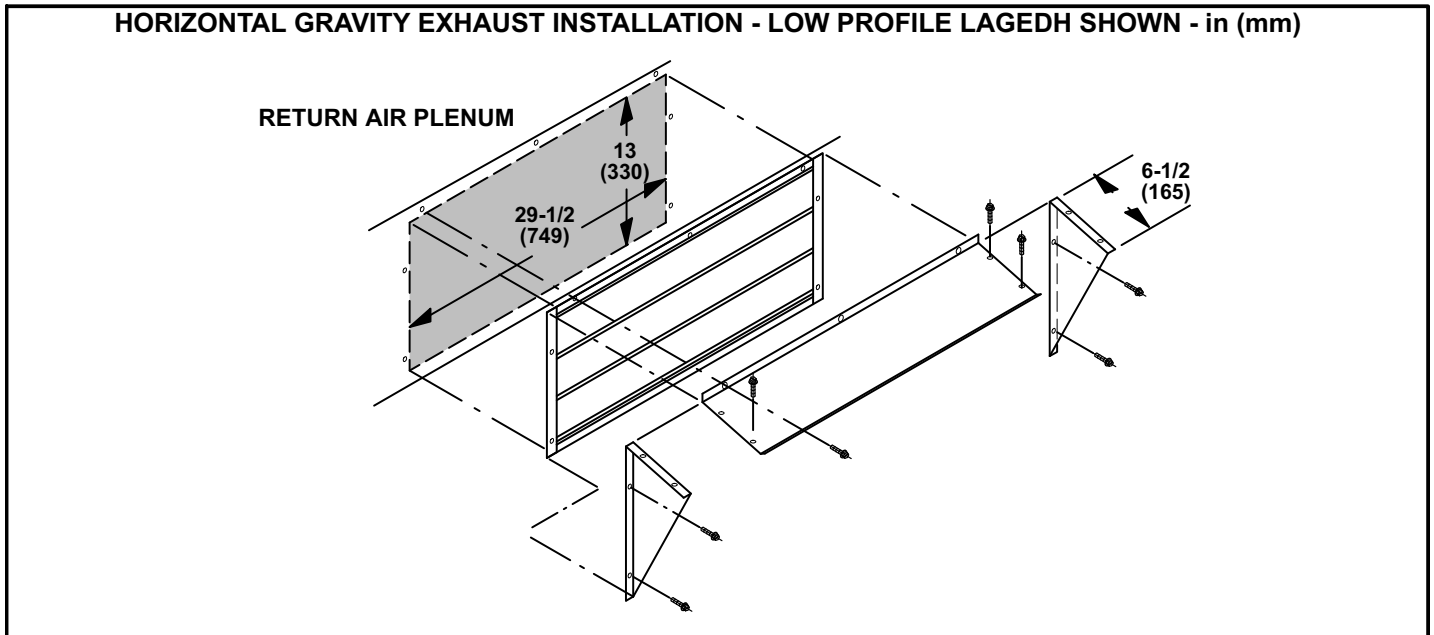

FIGURE 10
For horizontal applications, a separately ordered horizontal discharge kit is required. The horizontal, field-fabricated return air duct must be sized to accommodate the gravity exhaust damper and hood shipped with the economizer. A separately ordered low profile gravity exhaust damper (LAGEDH) and hood kit is available for size restricted applications. See figure 10.
- 2- Secure hood sides to hood top as shown in figure 10.
- 5- Slide combined damper assembly into plenum opening and secure using screws provided. See figure 10.